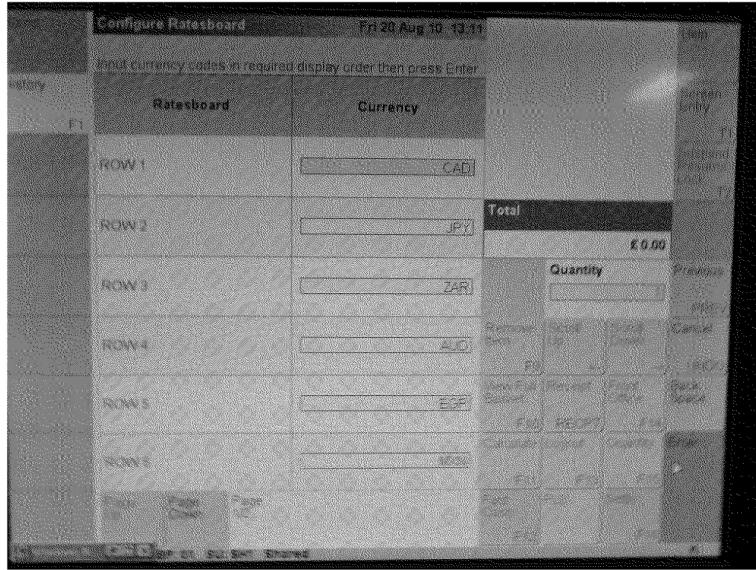

Figure 13
4) After making the appropriate selection, the currency selection screen will be displayed, see figure 13:
5) The display is not large enough to display all the rates simultaneously. This screen is divided into two and is accessed by "Page Up or Page Down icons. (See figures 13 and 14)